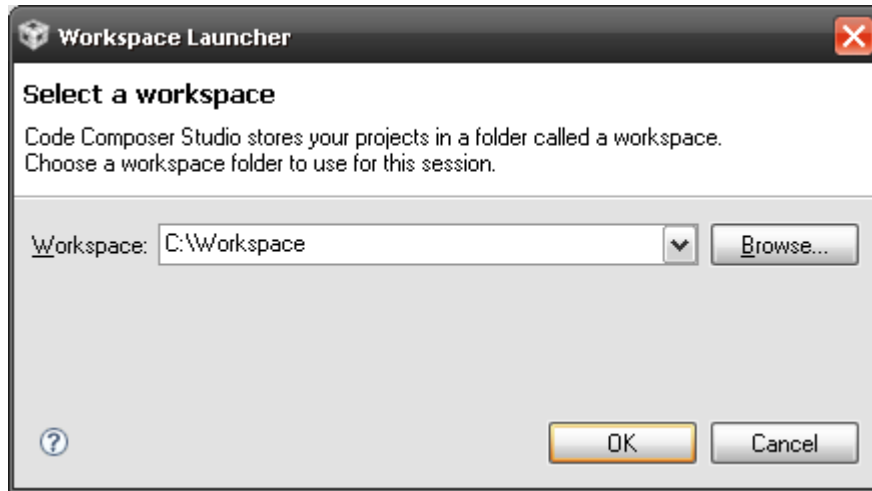

Figure 3. Selecting a CCS Workspace
5. Open CCS and select a workspace directory (see Figure 3).